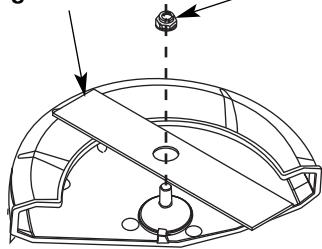

Fig. 20
4. Install the new blade and nut (Fig. 20).